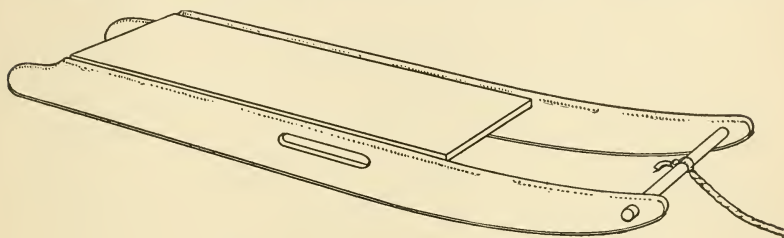

FIG. 314. — A Home-made Sled.
**A Home-made Sled**, such as that shown in Fig. 314, requires but little material, and if carefully made will prove stronger than the variety commonly sold in the shops.